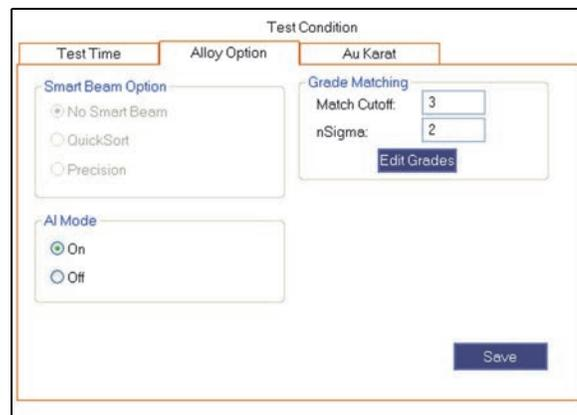

Figure 2-3 The Alloy Option tab
3. On the **Test Conditions** pane, select the **Alloy Option** tab (see Figure 2-3 on page 48).